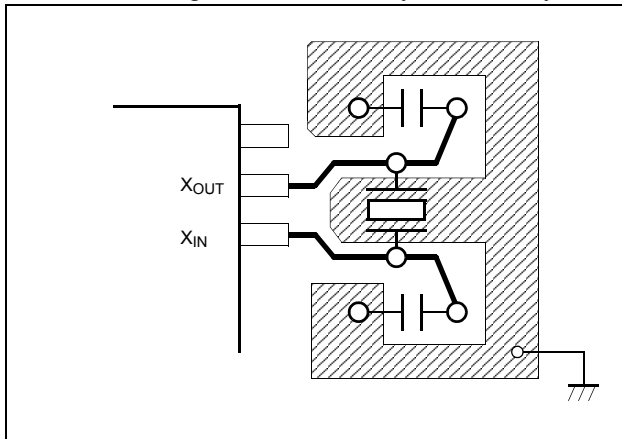

**Figure 10-1 Oscillator Connections**
**Note:** When using a system clock oscillator, carry out wiring in the broken line area in Figure 10-1 to prevent any effects from wiring capacities.